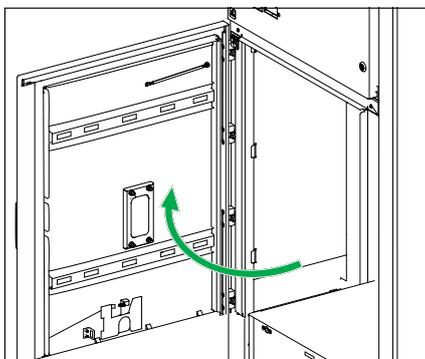

Figure 68
2. Swing the door to the left side. Refer to Figure 68.